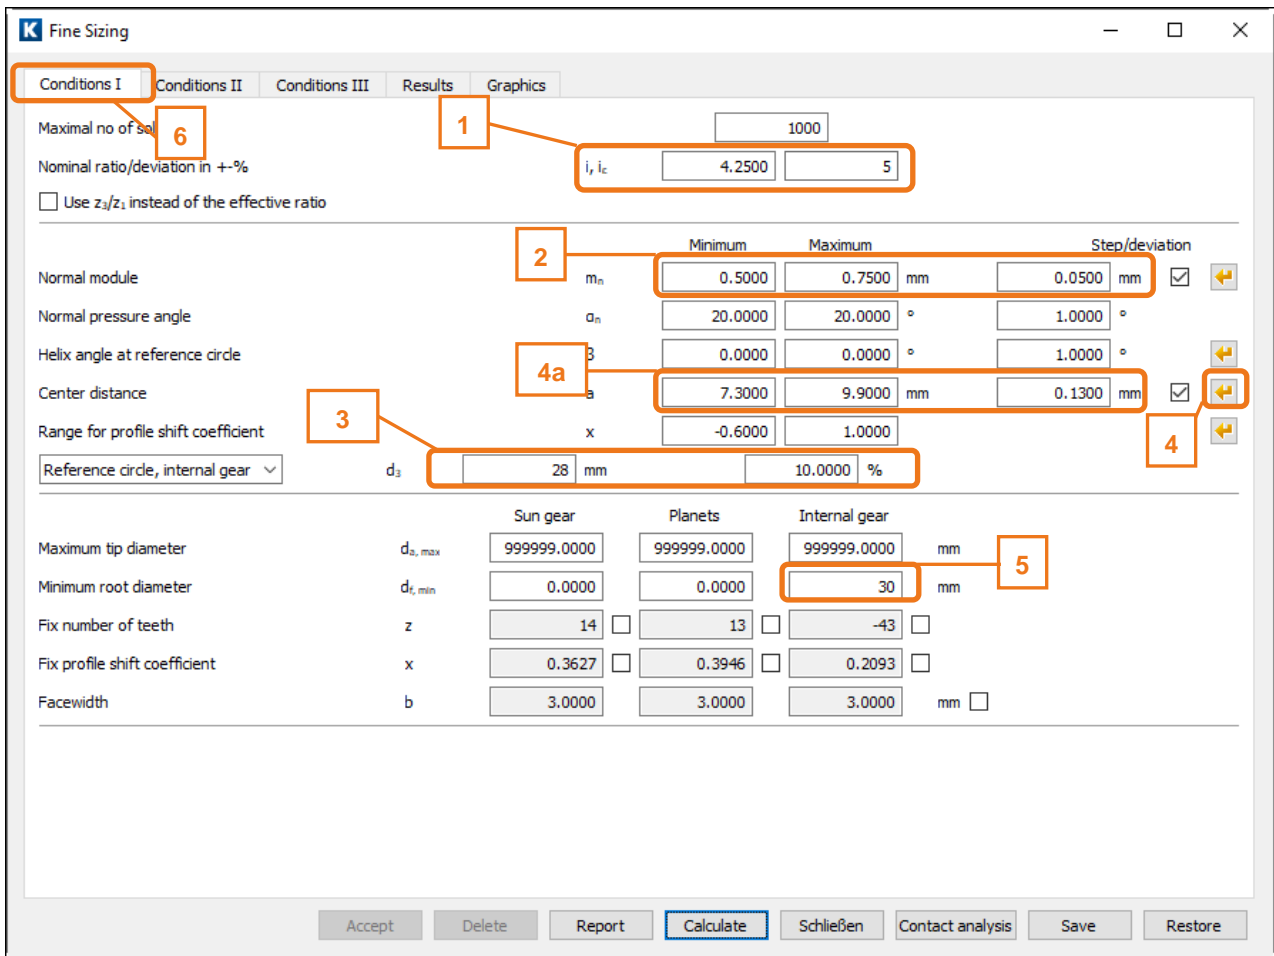

Figure 19. Settings for Fine sizing
Click the «Sizing button» for the center distance (4) to display the possible value range for this value. In order to force the gear's root diameter to be small enough to ensure sufficient material remains below the tooth root, you must input a suitable value in the relevant field (here: $36 - 2 \cdot 3 \text{ mm} = 30 \text{ mm}$) (5), see Figure 19.